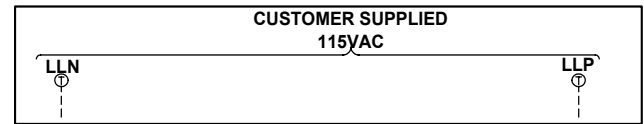

Figure 2-2
- A. The first circuit common to all drive types is an independent single phase supply for the cab lighting circuit. Usually 120 VAC for North America and 230 VAC for the remainder of the world. This circuit should be a 15 amp fused circuit. [See Figure 2-2.]